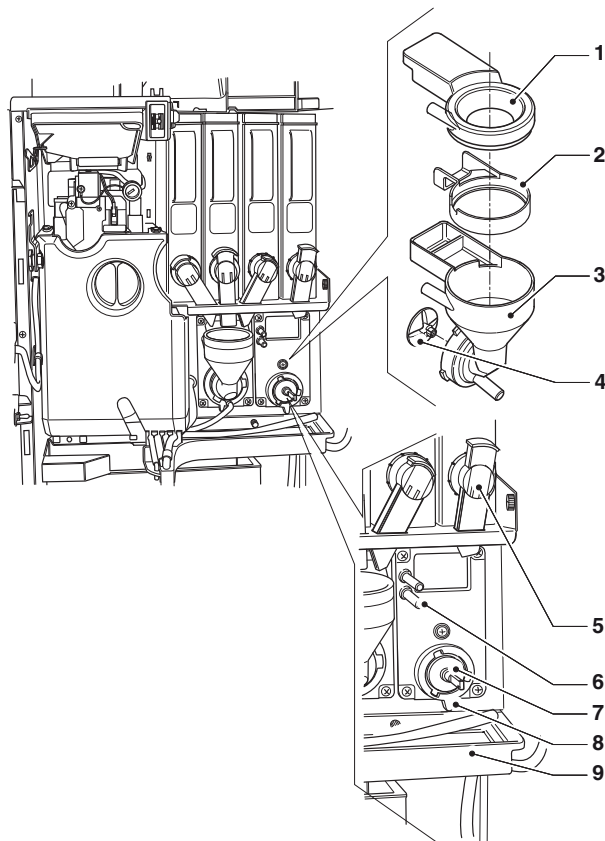

Fig. 27
- Remove (see Fig. 27) the powder funnels, the water conveyors, the powder deposit funnels and the mixer motor fans from the mixers;